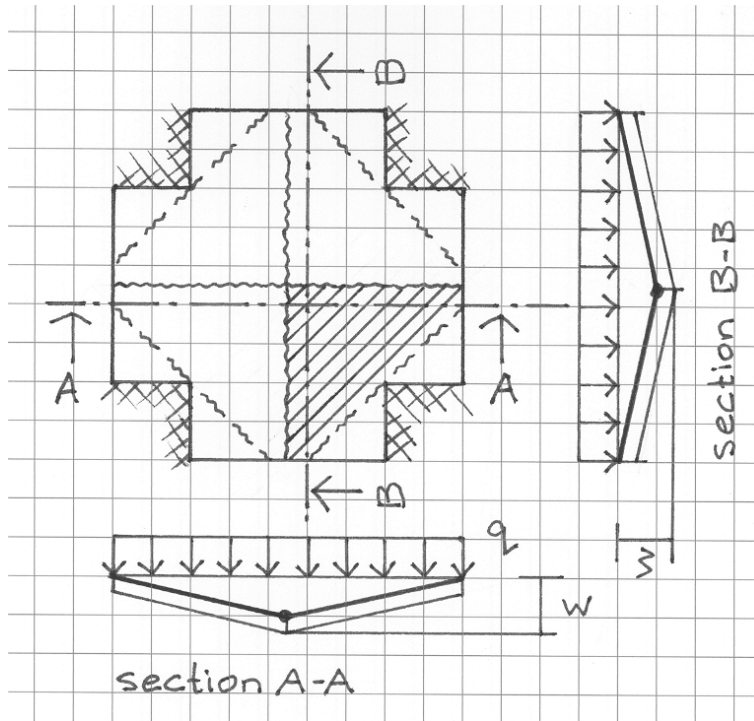

Figure 6. Yield line pattern of problem 2b
- b We consider the yield line pattern of Figure 6. Determine an upper bound for q expressed in m_p and a . (1.5 points)